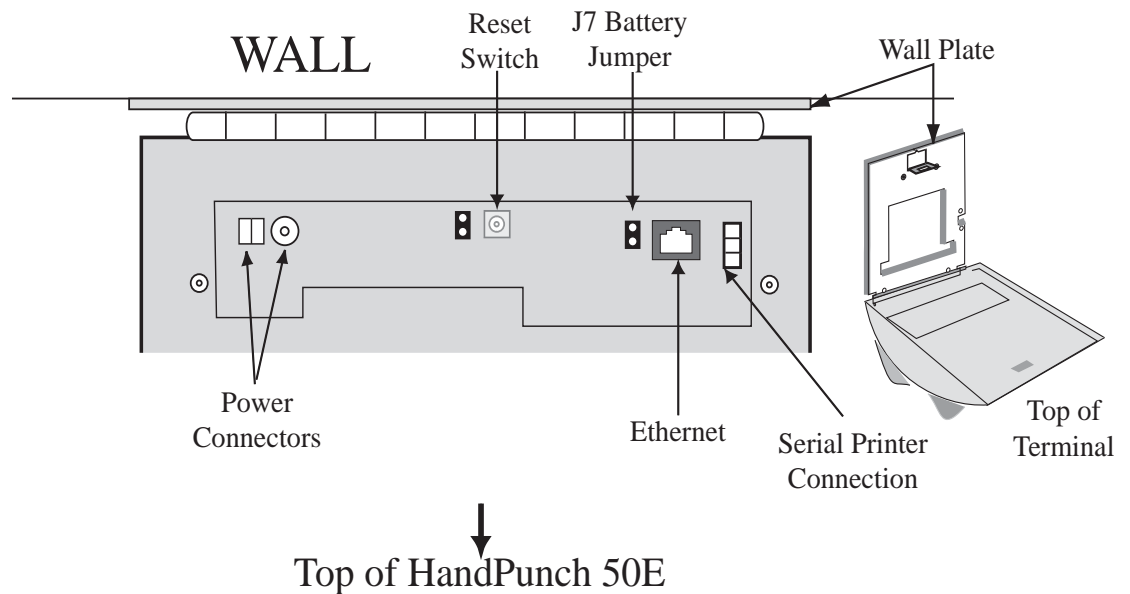

Figure 4-1: Board Layout
Shunt J7, which is located immediately in front of the DIP switches on the main logic board (see Figure 4-1 on page 17), enables or disables battery operation on those HandPunches equipped with optional battery backup. If a HandPunch does not have the optional battery backup package installed, J7 is not used. On HandPunches equipped with the battery backup option, J7 allows service personnel a mechanism for disabling battery backup operation before removal of main input power.
Once the HandPunch is attached to the wall plate the wiring connections to the HandPunch can be made (see Figure 4-1).
1. With system power OFF, depress reset switch. (See figure 4-1 on page 17 to locate switch.)